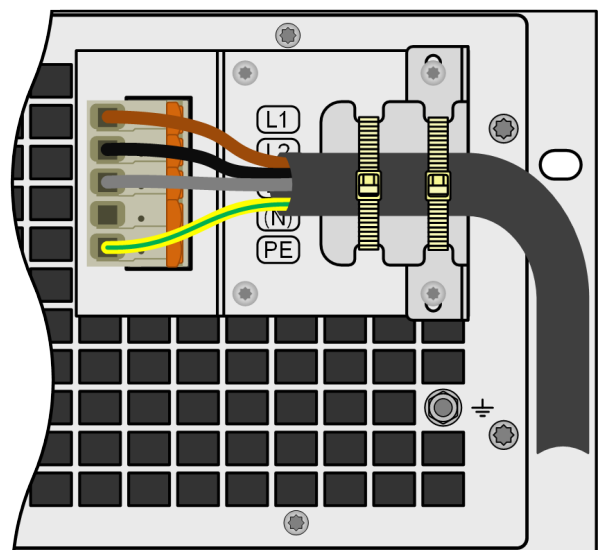

Figure 12 - Fully installed strain relief
2. Place the bracket and fix it with the included, longer screws (M3x8) and spring/curved washers. See *Figure 12*.